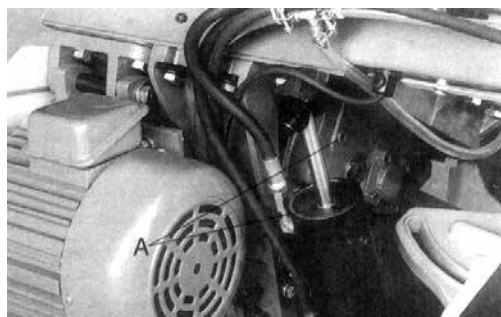

Figure 15. Gearbox Drain Plug Location (A)
1. See Figure 15. Place a collection contained below the drain plug.